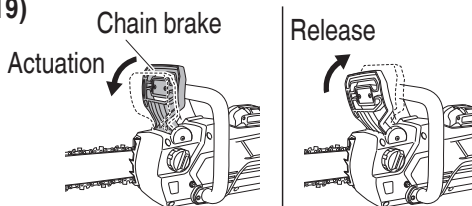

Fig. 19
5. Checking operation of chain brake (Fig. 19)